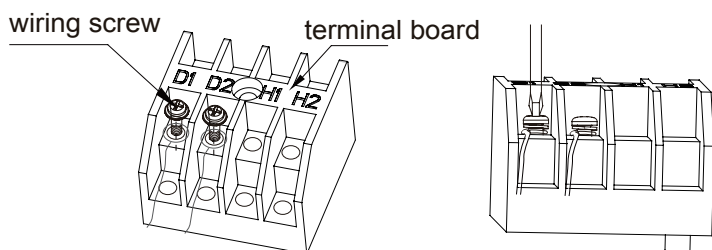

Fig 5.3.1
- (1) Detach the electric box cover.
- (2) Let the Communication cable pass through the wiring through-holes.
- (3) Connect the communication wire to terminal D1 and D2 of indoor 4-bit wiring board, as shown in Fig 5.3.1.